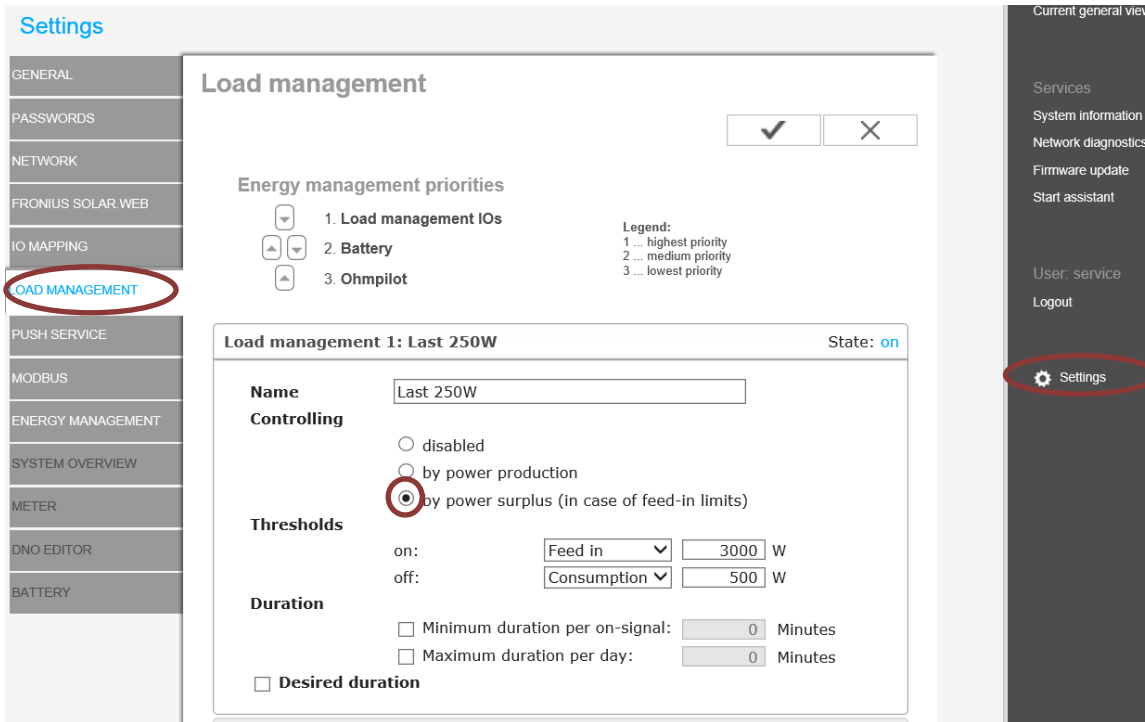

Figure 5a: Web-interface settings on SnapINverters
- / Configure the load management settings under Load management. See Figure 5a and b